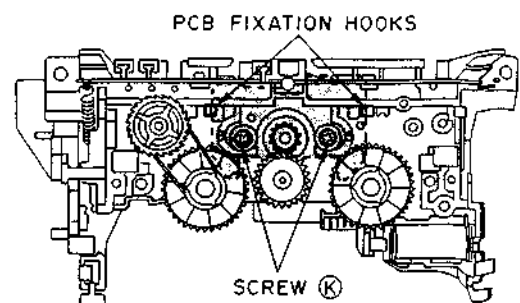

Fig. 3-12
- 2) Remove the PCB retaining screw ②.
- 3) Release the two hooks which retain the REEL PULSE DETECTION PCB and remove the PCB. (Refer to Fig.3-12)
- 4) Remove the springs of the assist lever (A) and (B).
- 5) Extract the assist lever (A) and (B).
- 6) Remove the reel motor retaining screws ⑤ and remove the REEL MOTOR.